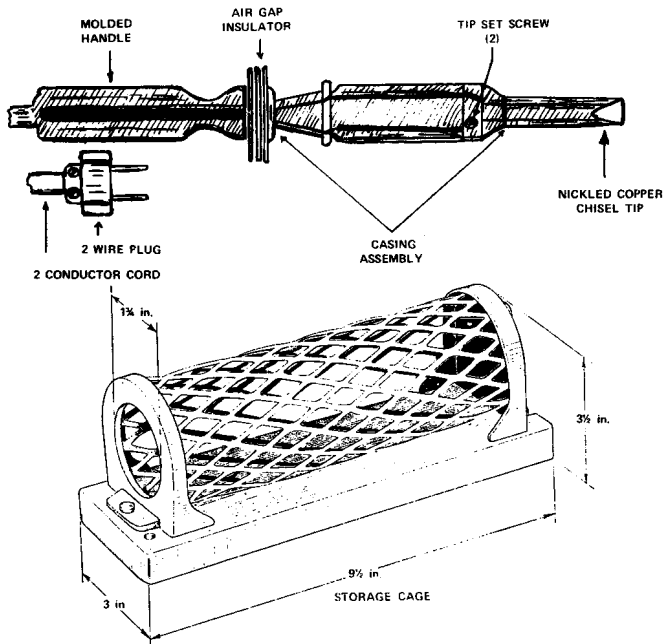

Figure 1.
2.01 As shown in Figure 1, the electric soldering irons covered in this practice consist of a molded handle, 2-conductor cord and plug, a 100, 200, or 300 watt heat element within the casing assembly, an air gap insulator safety shield, a replaceable nickled copper tip and two set screws.